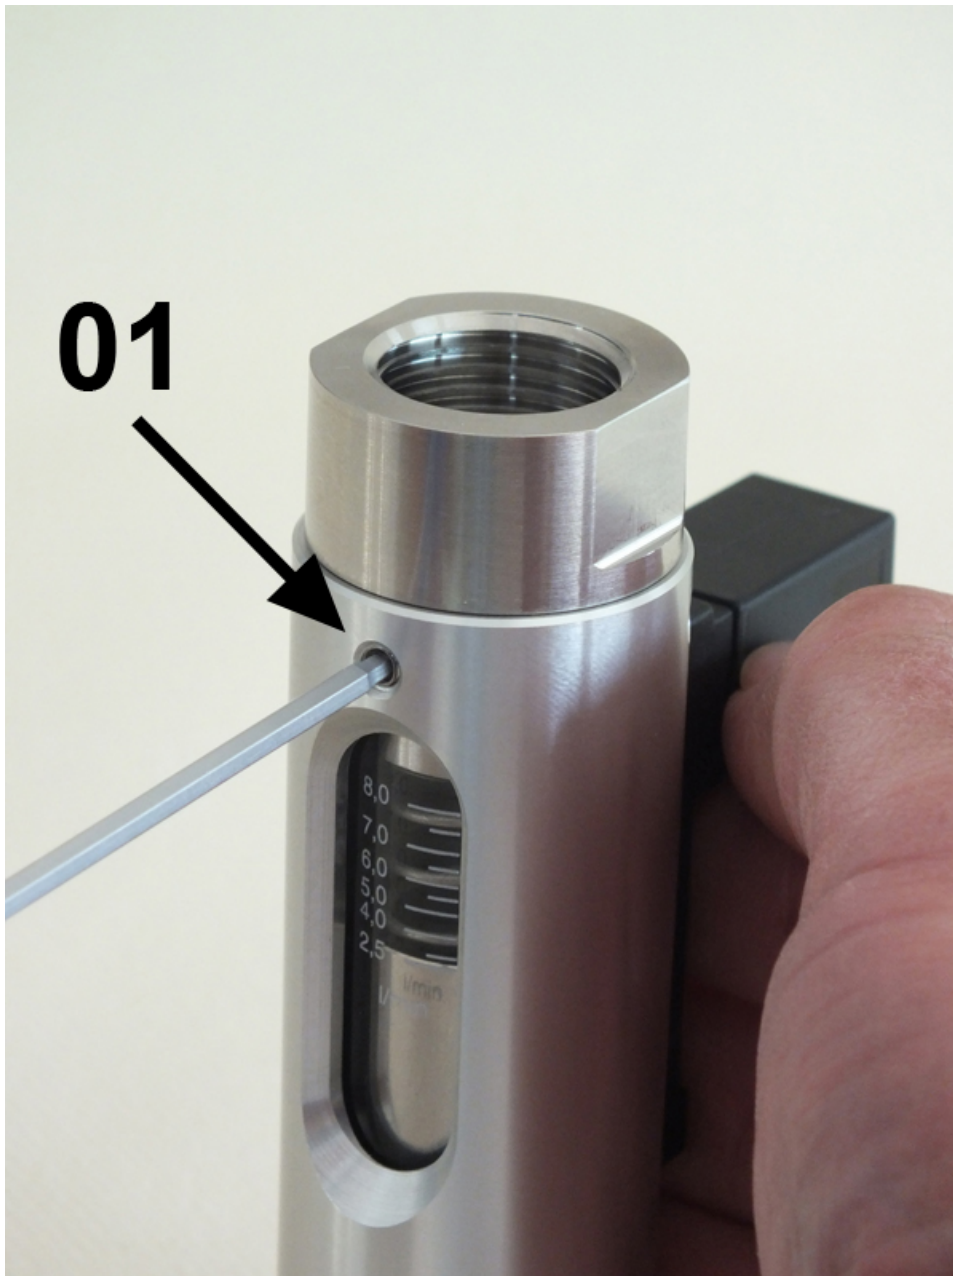

Fig. 51: Tighten hex socket screws
- 14.** Tighten the 3 hex head screws (Fig. 51/01), observing the proper torque (→ Chapter 11.1 "Tightening torque" on page 85)